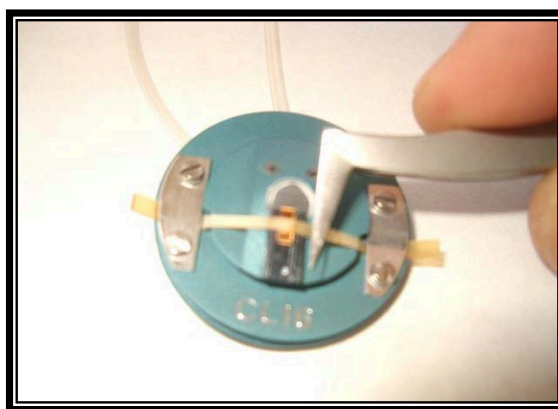

Fig. 4.52: Move the rubber strip to expose the chip mounting platform. Place the chip cantilever, and then hold the chip with the rubber strip.
- Mount the cantilever to the cantilever holder designed for liquid environments. You can fix it either with grease (see Fig. 4.51) or with a rubber strip (Fig. 4.52), depending on your application.